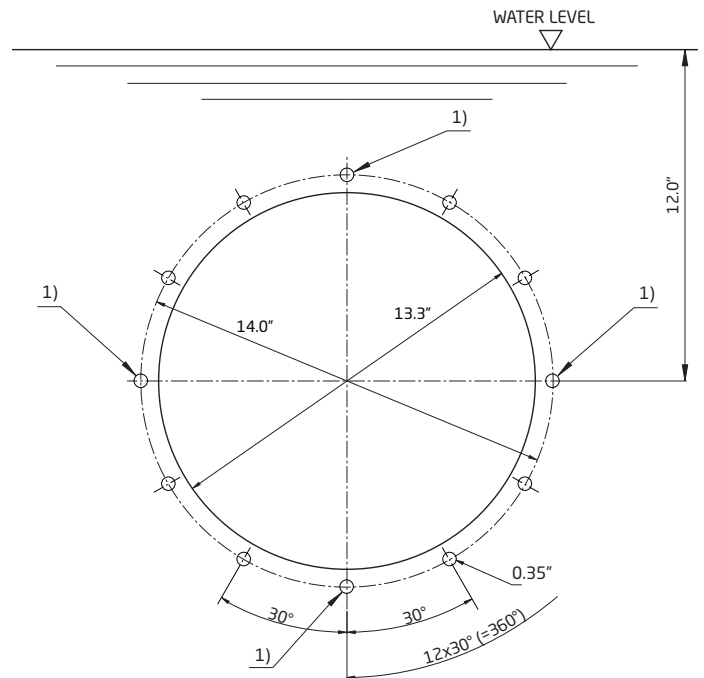
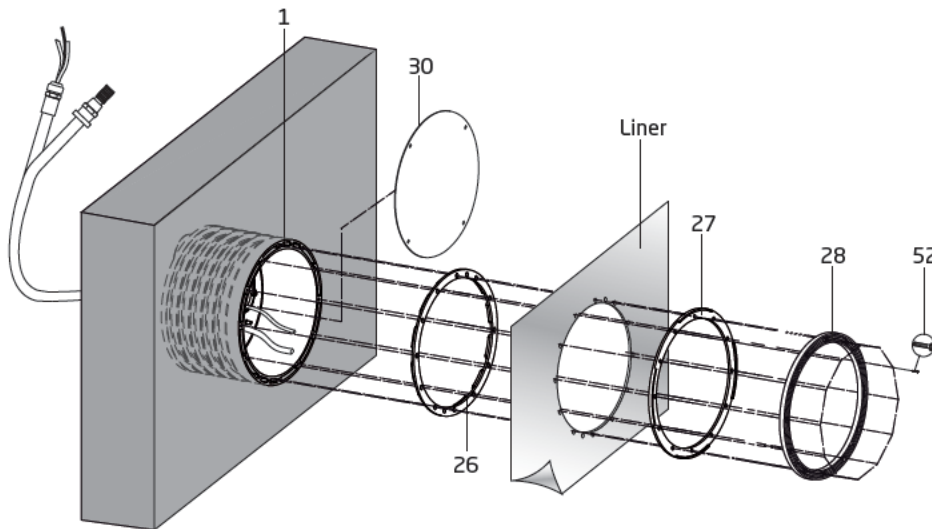

Figure 5
Figure 7
- Create formwork for the jet housing using Figures 5 & 6.
- Drill the four M8 holes marked (1) in Figure 5 in the formwork for the inner pool wall. Cut a 14.5" hole in the formwork for the outer pool wall. **CAUTION:** The center of the jet housing **MUST BE** mounted 12" **BELOW** the water line as shown in Figures 5 & 6
- Place the gunitite cover (part# 30) on the front of the jet housing. The four (4) holes in the gunitite cover should line up with the holes marked (1) in Figure 5. Tape the edge of the gunitite around the entire jet housing to keep concrete out of threaded inserts and out of the jet housing.
- Place the inner wall formwork on the front of the jet housing, lining up the pre-drilled holes with the holes in the gunitite cover/jet housing. Secure the formwork to the jet housing with four (4) M8 x30 screws (part# 52).
Use the provided mounting template (small scale version of template shown in Figure 5) to mark and drill the holes through the liner (twelve (12) M8 clamping ring screw holes and 13.3" center hole). Insert the gasket with knobs in the front of the jet housing (part# 26). Install the liner with the holes aligned to the jet housing. Align clamping ring (part# 28) and place the clamping ring gasket (part# 27) and install using the twelve (12) M8 x 30 clamping ring screws (part# 52). (See Figure 7)
5. Place gunitite cover on the front of the jet housing. The four holes should be lined up with the holes marked (1) in Figure 5. Tape the edge of the gunitite cover around the entire jet housing to keep gunitite out of threaded inserts and out of the jet housing. Next place plywood on the front of the jet housing and secure to four (4) M8 x 30 screws (part #52). The discharge connection should be located directly **ABOVE** the suction connection.
6. Now place this assembly into position in the pool wall and align the water line marks. With a level on the two (2) horizontal studs, level the assembly and mark the eight (8) holes for the 1/4" lag shield anchors. Remove assembly and drill holes for lag anchors. Install lag shield anchors. Reposition the assembly and secure it to the lag shield anchors with 1/4" lag screws. It is best to check with a level before tightening the lags down. Back fill and form the outside of pool wall.
Use the template in Figure 5 to mark and drill the holes through the liner (twelve (12) M8 holes and center 14" hole). Insert the gasket with knobs (part# 26) in the front of the jet housing. Install the liner with the holes aligned with the jet housing. Install the clamping ring (part# 28) and clamping ring gasket (part# 27) using the twelve (12) M8 x 30 clamping ring screws. (See Figure 7)